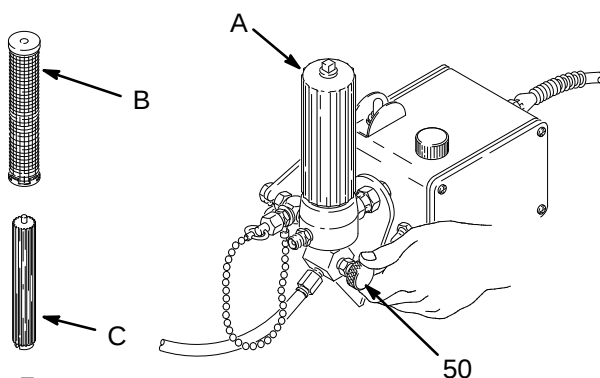

Fig. 7
2. Remove the filter bowl (A), support (C) and screen (B); see manual 307-273. Install the bowl and support. Clean the screen separately and install after flushing.. See Fig 7.